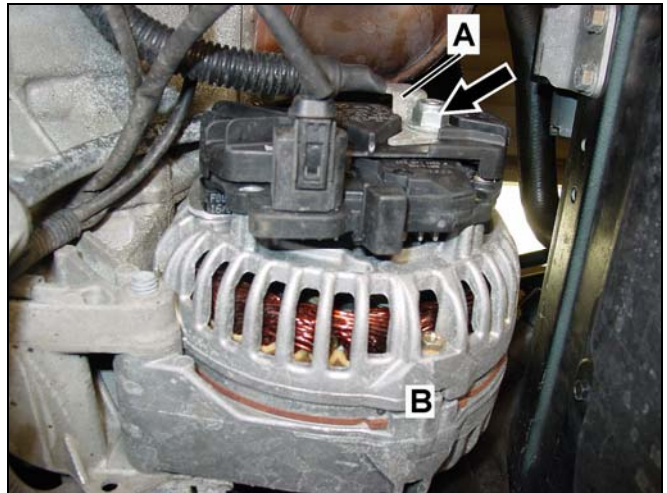

Figure 5 (shown on model 208)
- Remove nut (arrow, Figure 5) then remove circuit 30 harness connector (A) from terminal stud.
- Remove alternator (B, Figure 5) from mounting brackets.